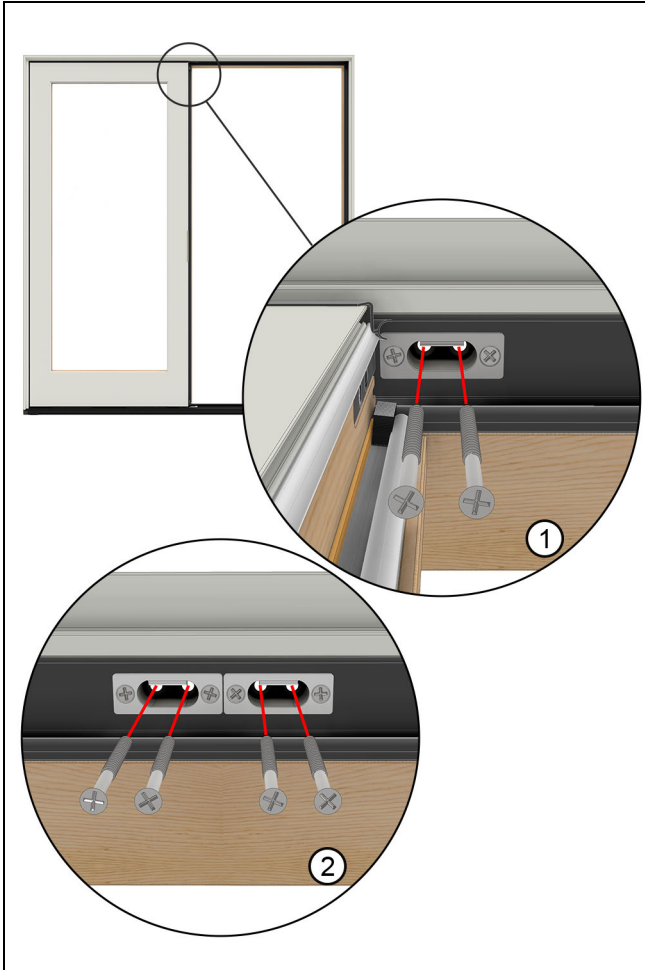

Figure 22 1 3/4" Head jamb strikes
1. 1 3/4" Doors: Drive the #8 x 3" screws through the strike and into the rough opening. If you have an XX door, do this on both strikes. See Figure 22.